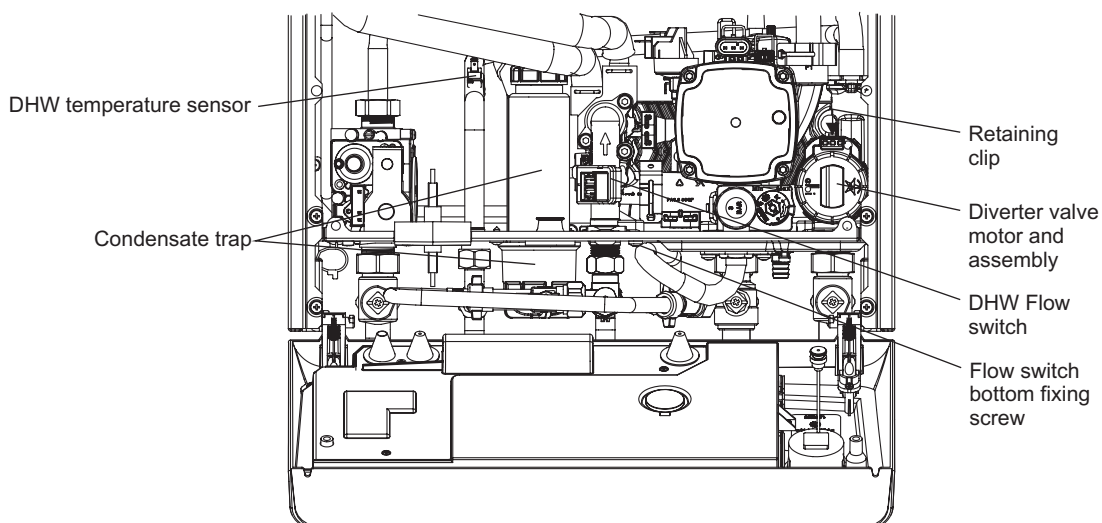

Fig. 7.3
7.12 DIVERTER VALVE MOTOR - Fig. 7.3
7.14 DHW TEMPERATURE SENSOR - Fig. 7.3
1. The DHW sensor is positioned in the hot water outlet pipe to the left of the flow switch, see Fig. 7.3. Unplug the two connections and unclip the sensor from the pipe.
Note: The DHW sensor should be on the sloped part of the DHW pipe. See Fig. 7.3.
7.18 DHW FLOW SWITCH - Fig. 7.3